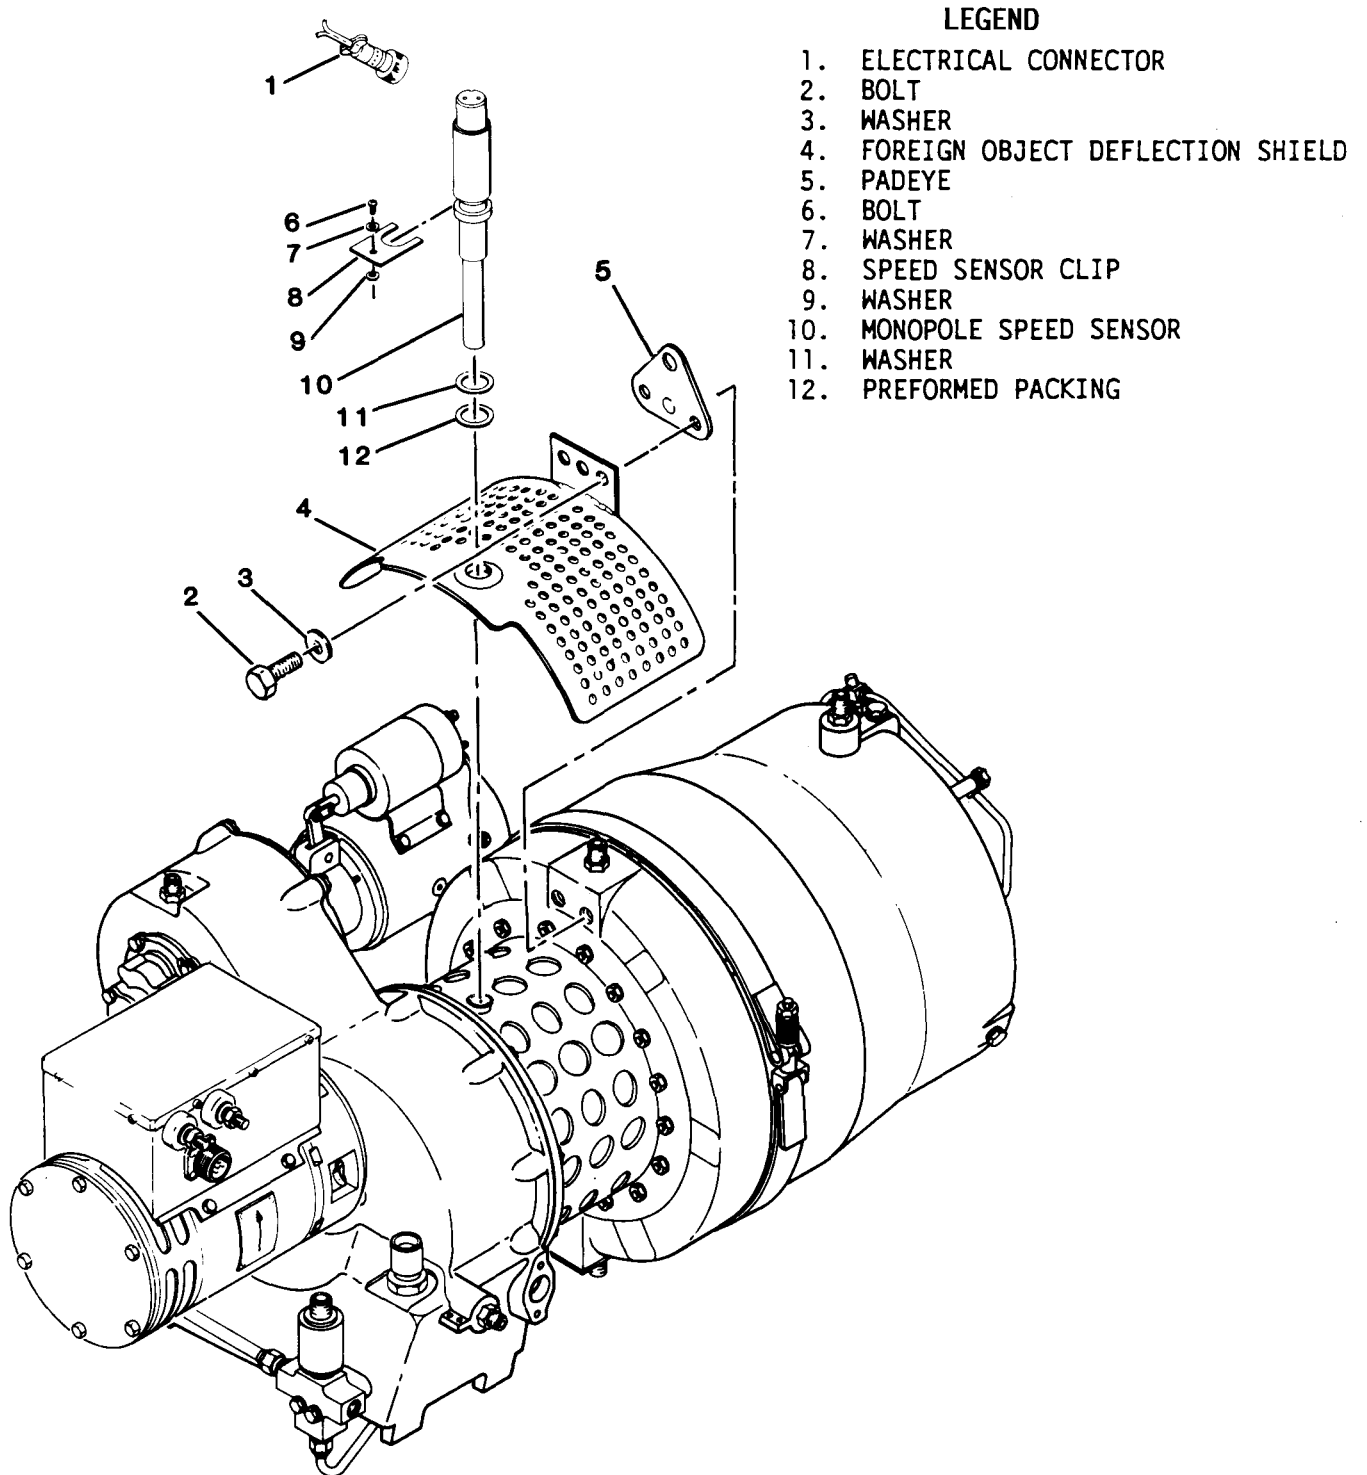

Figure 4-40. Monopole Speed Sensor Replacement
(1) Disconnect battery cable plug connector from battery.
(2) Loosen turnlock fasteners and remove engine housing access cover.
(3) Disconnect electrical connector (1, figure 4-40) from monopole speed sensor (10)